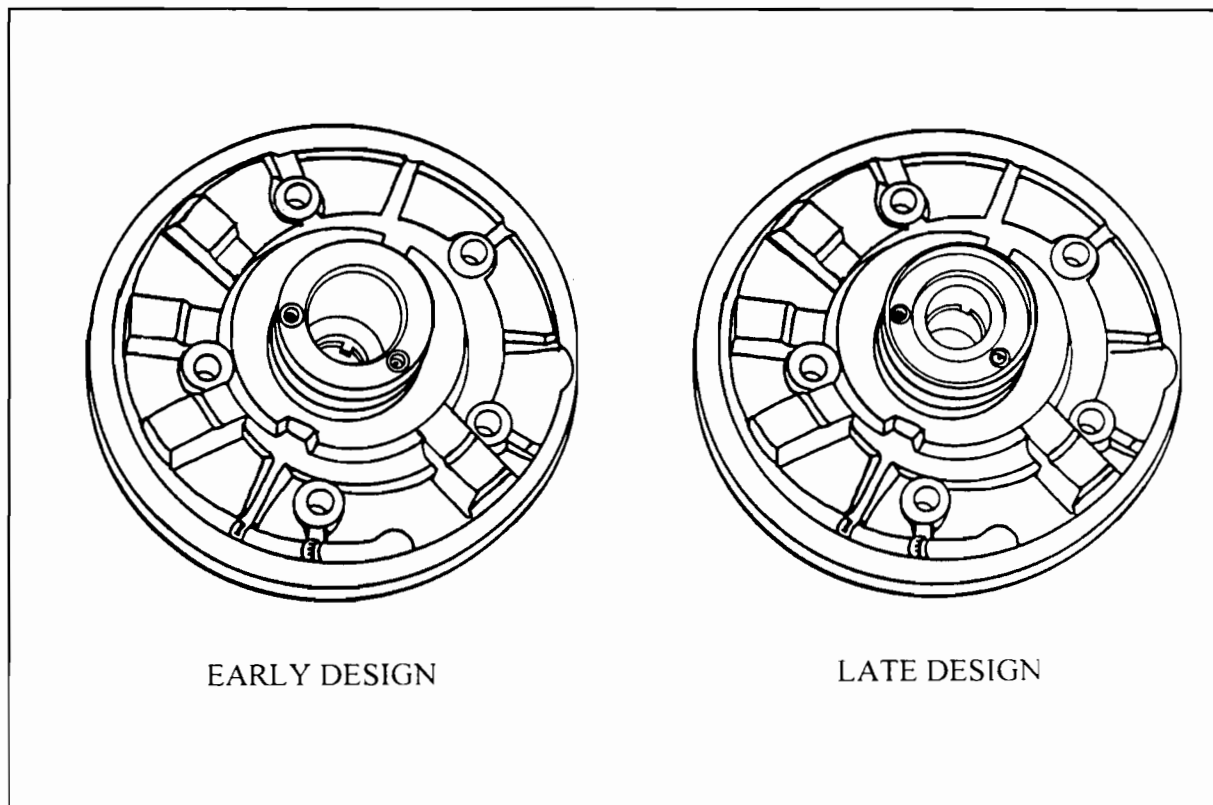

FIGURE 11
(1) **STATOR SUPPORT**- The stator support wall was made thicker to accommodate the change in the bushing location (See Figure 11).